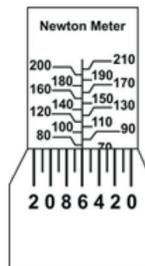

Abb.2
- Continue to turn the handle clockwise until the value "6" on the adjustment dial is even with the length marker of the torque dial. (**Fig. 2**)